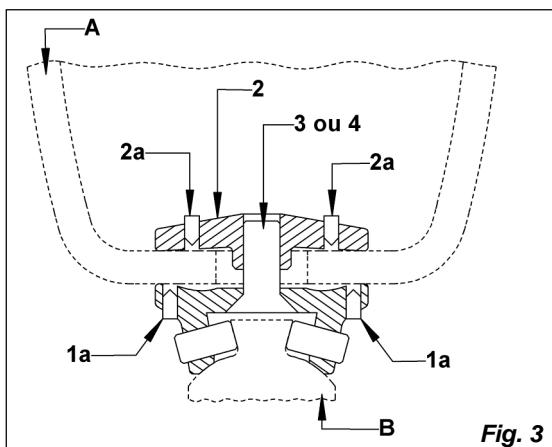

Fig. 3
- For a socket bottom whose thickness (X) is up to 9 mm, select screw **3** supplied (25 mm length)
- For a socket bottom whose thickness (X) ranges from 9 to 15 mm, select screw **4** supplied (30 mm length).
D) SOCKET TRANSLATION ADJUSTMENT (Fig.3 / 4)